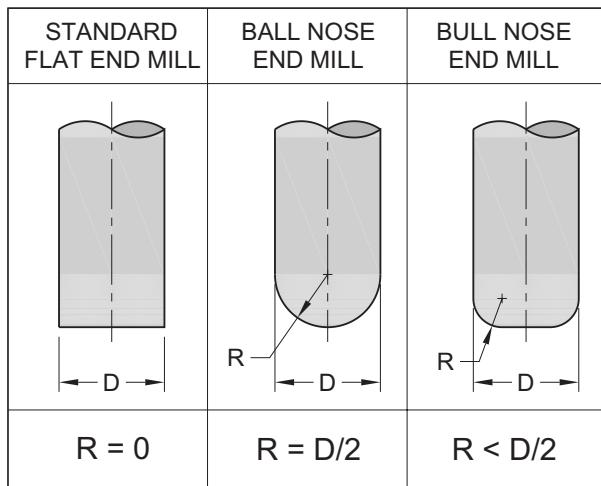

Figure 32-1
*Figure 32-1* shows the three most common types of end mills used in industry and the relationship of cutter radius to the cutter diameter.